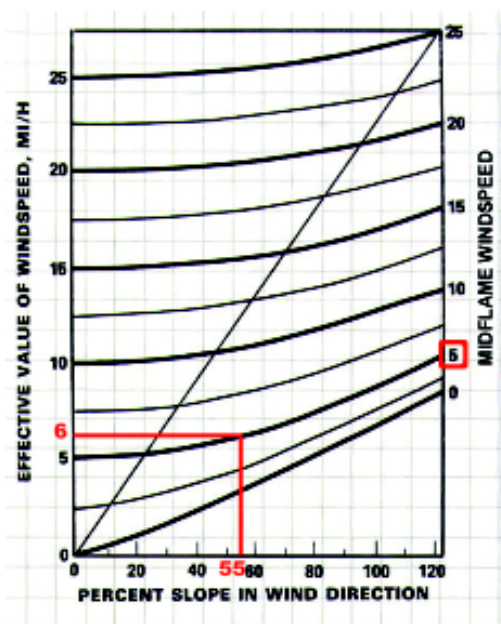

Figure 9.7—Nomogram—lower left quadrant.
- Determine effective windspeed. In the lower left quadrant find the percent slope and draw a vertical line up. See figure 9.7.